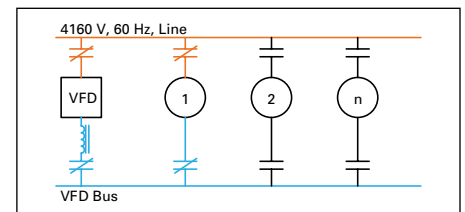

Figure 10.4-19. VFD Synced to Input
- PLC closes motor select (**Figure 10.4-19**)
See Figure 10.4-19.